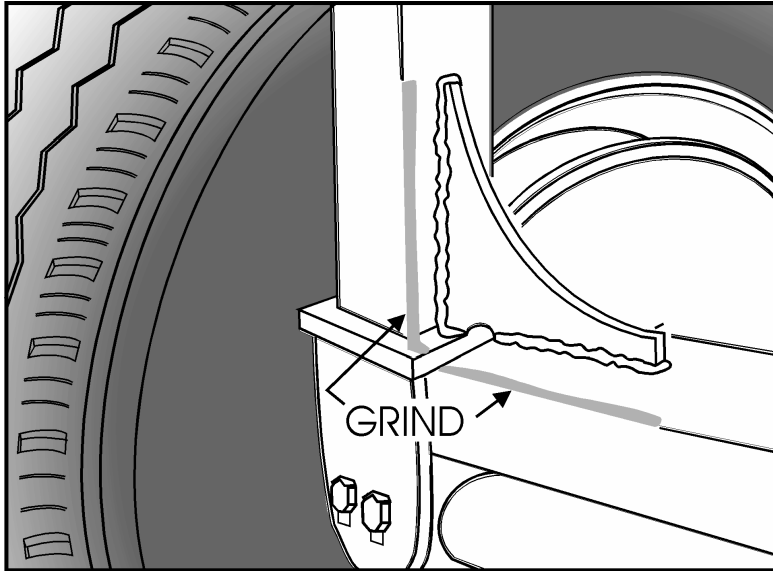

FIGURE 3
3. Referring to figure 3, grind to bare metal the areas where the new reinforcement (#171738) will be welded.